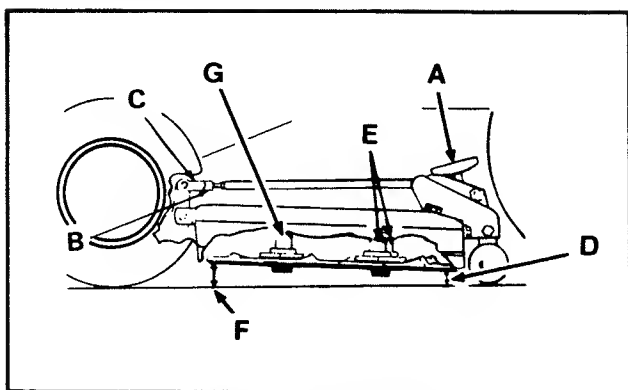

FIGURE 38 - Level Mower
2. Turn both mower height adjustment handles (A, Figure 38) fully clockwise to the highest cutting height position.
3. Rotate the mower blades so the tips point straight forward and backward as shown in Figure 38.
- a. Loosen the jam nuts (B, Figure 38).
- b. Remove the cotter pins and then disconnect the eyebolts or yokes (C, Figure 38) from the mower hitch.
- e. Reinstall the eyebolts or yokes on the hitch and reinstall the cotter pins. Spread the cotter pins around the hitch pins. Then retighten the jam nuts. (B).